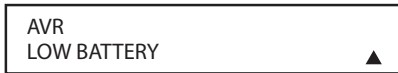

Figure 117.
- The programming or configuration process may also be stopped at any time by pressing the **Rem Menu Button 35**. The message shown in **Figure 117** will appear, the data entered in the current process will be lost and the remote will return to normal operation. Any process that was underway when the button is pressed must be restarted.
- When the batteries approach a level below which the remote will not function, the remote's LCD screen will display a **LOW BATTERY** warning, as shown in **Figure 117**. We strongly recommend replacing the batteries as soon as this message appears to avoid the loss of programming and configuration settings. These settings are not lost when the batteries are changed quickly.